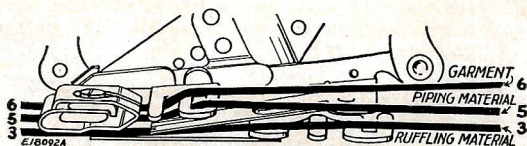

FIG. 70. CORRECT POSITIONS FOR THE MATERIALS
- (1) Insert the material to be ruffled between the two blue blades **Line 3, Fig. 70**. This material must not exceed $1\frac{1}{4}$ inches in width.
- (2) The piping material is usually cut on the bias and it should be about $\frac{1}{4}$ inch wide when folded in the center. Place the piping material in the ruffler, following **Line 5, Fig. 70** with the folded edge of the piping to the right.
- (3) Fold the edge of the material to which the piping and ruffling are to be attached and insert it in the ruffler, following **Line 6, Fig. 70**.